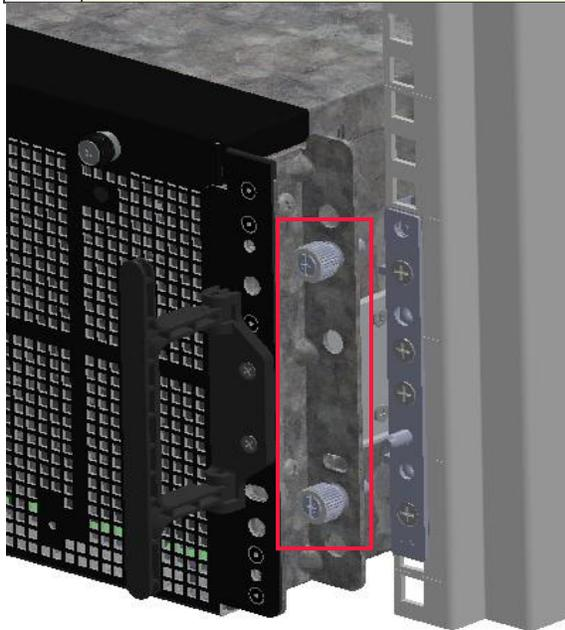

Figure D.7 Rack thumbscrews
- a. Loosen the two left and two right thumbscrews that secure the enclosure to each of the front rack posts. The thumbscrews are shown in Figure D.7.